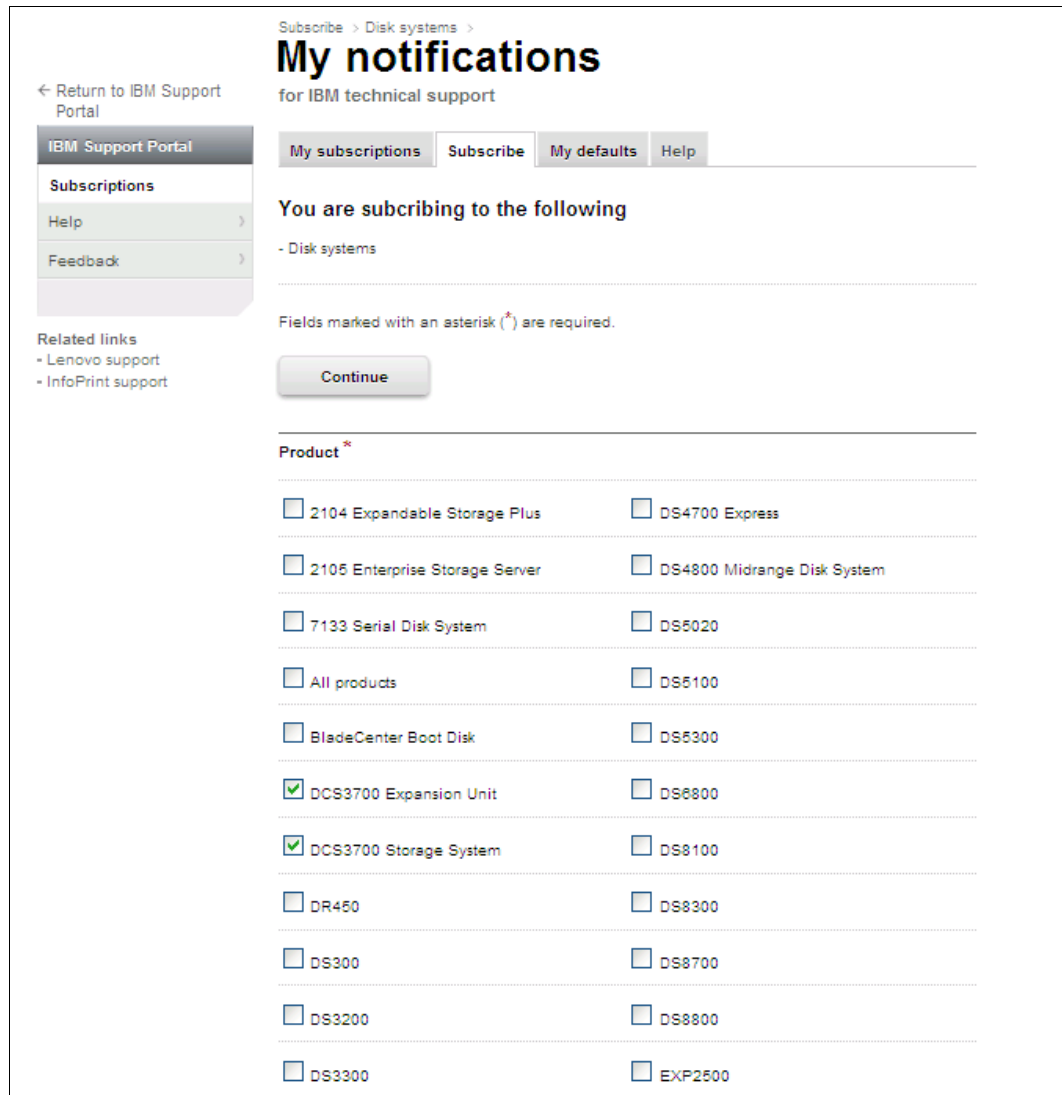

Figure A-20 My notifications - disk systems
- Click **Disk systems** under the Storage column and you see a list of the storage subsystems, as shown in Figure A-20.